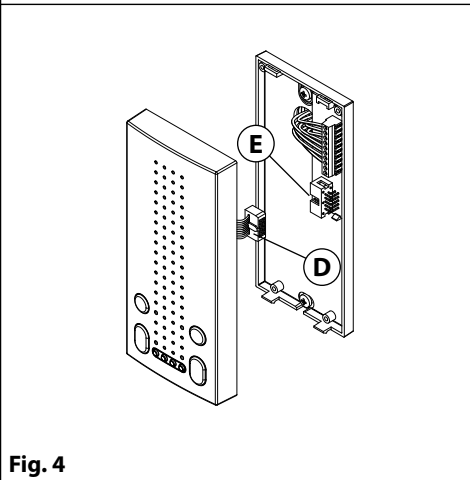

Fig. 4
- Using a flat blade screwdriver connect the wires to the pcb connection board **(C)** as shown in **Fig. 4**, according to the installation diagram provided.